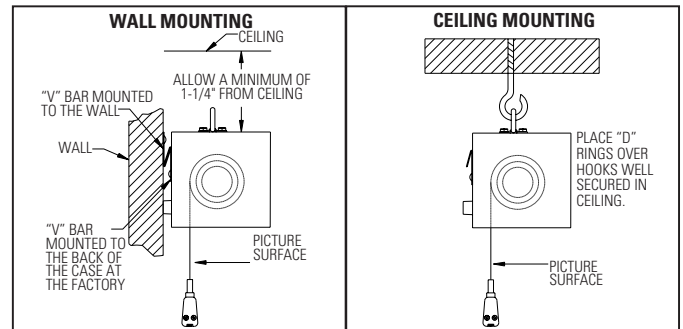

FIGURE 2
7. There are two methods of mounting the screen, suspended from ceiling and wall mounted. See Figure 2.